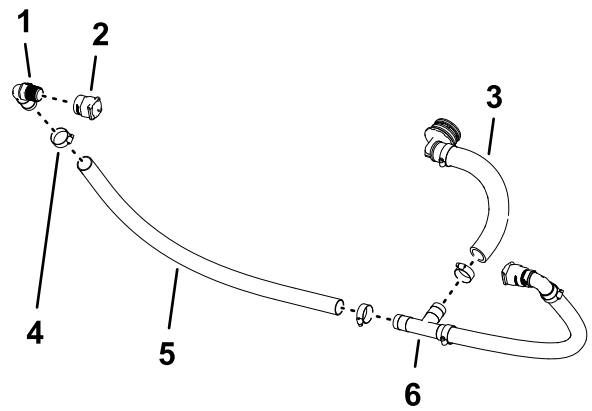

Figure 90
2. Assemble the quick-connect fitting (socket—3/4 inch) onto the 90° barbed fitting (1 x 3/4 inch NPT) as shown in Figure 90.
3. Assemble the 90° barbed fitting (1 x 3/4 inch NPT) into the hose (1 x 26 inches) and secure the hose to the fitting with a hose clamp (Figure 90).
4. Assemble the free end of the hose onto the T-fitting as shown in Figure 90 and secure the hose to the fitting with a hose clamp.
6. Assemble the 90° barbed fitting and hose assembly onto the T-fitting and secure the hose to the fitting with a hose clamp (Figure 90).